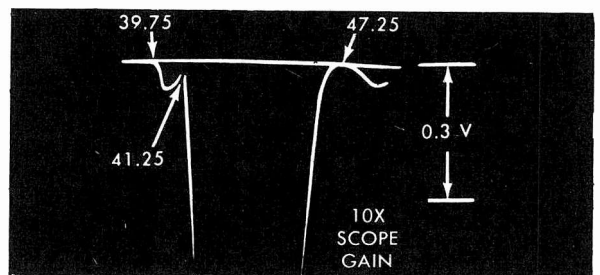
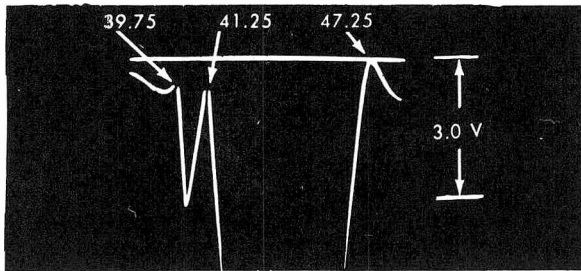
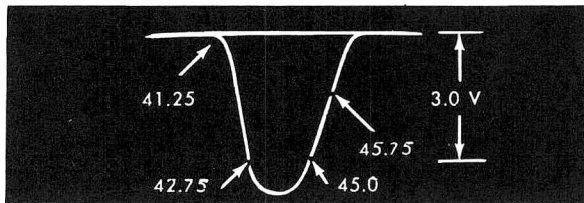

Fig. 3. Expanded View of Traps
Fig. 4. Further Expansion of Fig. 3. for Detail View of the 39.75 and 47.25 Mc Traps.
Fig. 5. Overall IF Response
5. Connect the sweep generator to terminal "A" (converter grid). Connect terminal "F" to chassis and connect a jumper between terminal "E" and chassis. Adjust the sweep to obtain a 3V. P.P. response similar to Fig. 5. Switch oscilloscope to 10X gain to "blow up" the traps (Fig 3).
6. Refer to Fig.3. and adjust the 39.75 Mc and the 41.25 Mc traps for minimum marker amplitude. Disconnect the jumper between "E" and chassis. Connect this jumper between "E" and the junction of the 22 (68 in the 14M28Z chassis) and 1800 ohm resistors in the cathode of the first IF. This provides an additional "blow up" of the 47.25 Mc traps (Fig. 4). Adjust the 47.25 Mc traps (the 15M22 chassis has two 47.25 Mc traps and the others have one) for minimum marker amplitude.
7. Disconnect the jumper between "E" and the 22 and 1800 ohm cathode resistors. Connect this jumper between "E" and chassis. Adjust sweep generator for 3 volts peak to peak output at the second detector. Alternately, adjust the 2nd, 3rd, 1st IF and the converter plate coil until an overall response similar to Fig. 5.